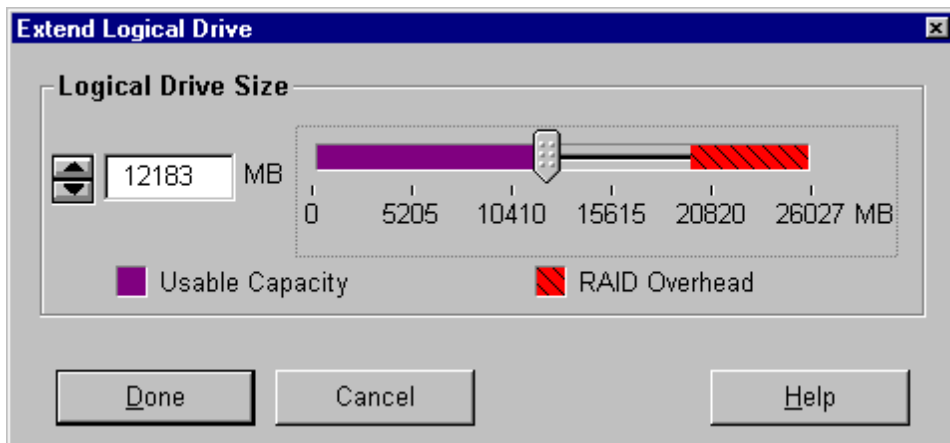

Figure 5-11. Extend Logical Drive screen
**NOTE:** The Extend Logical Drive screen displays the current capacity and RAID overhead of the selected logical drive (Figure 5-11).